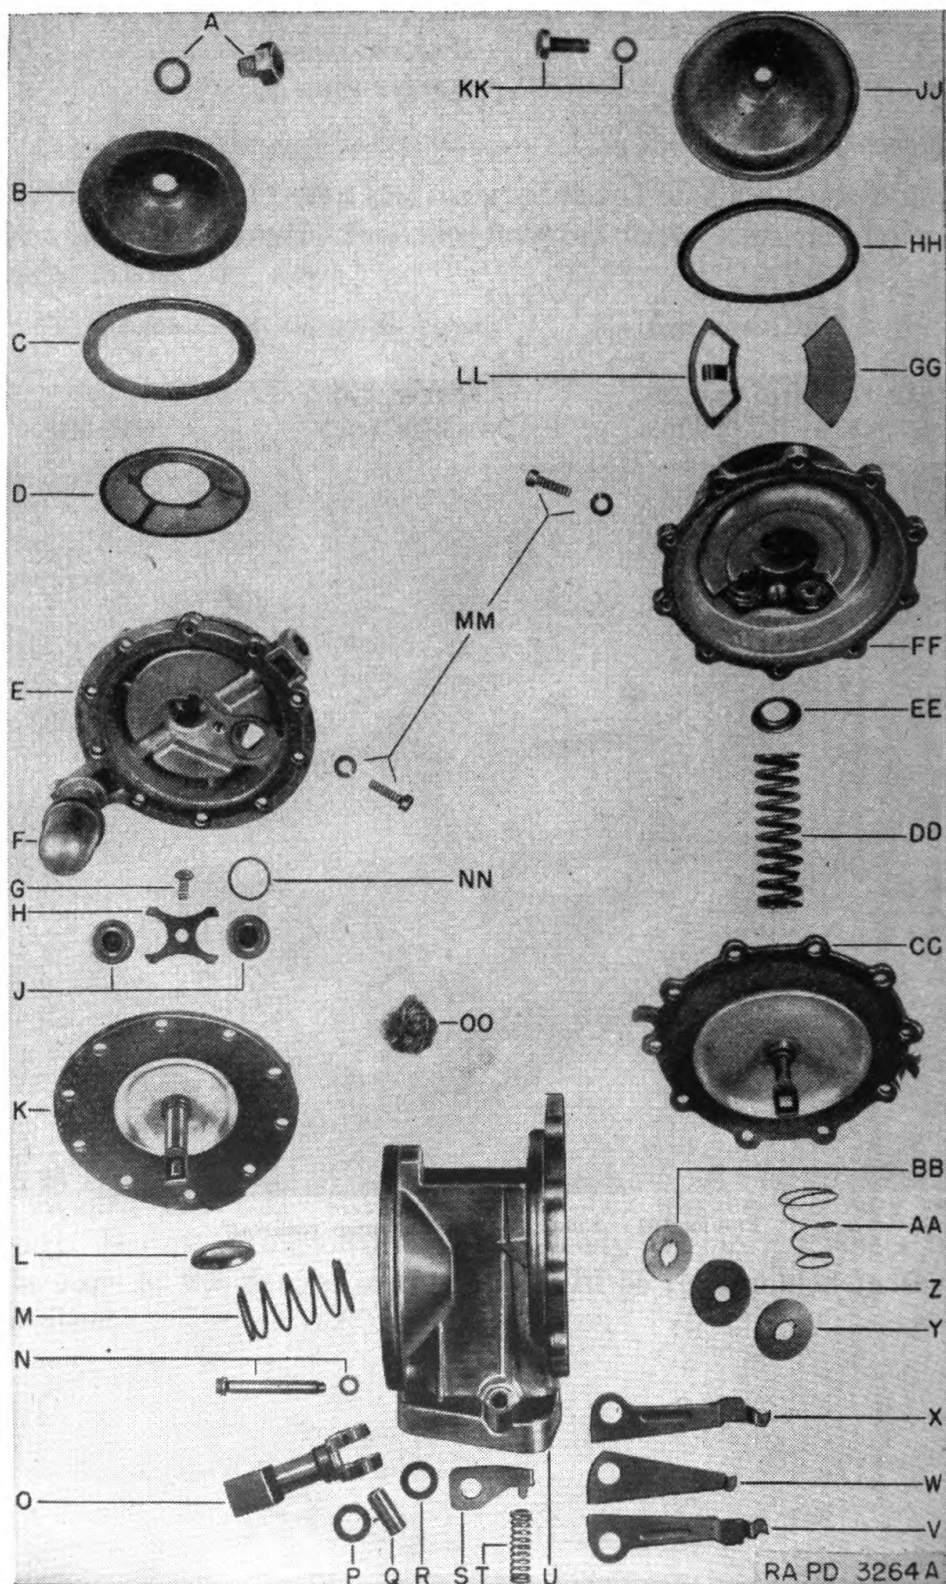

FIGURE 192.—Fuel pump, exploded view.
d. Fuel pump disassembly (fig. 192).—Tools: